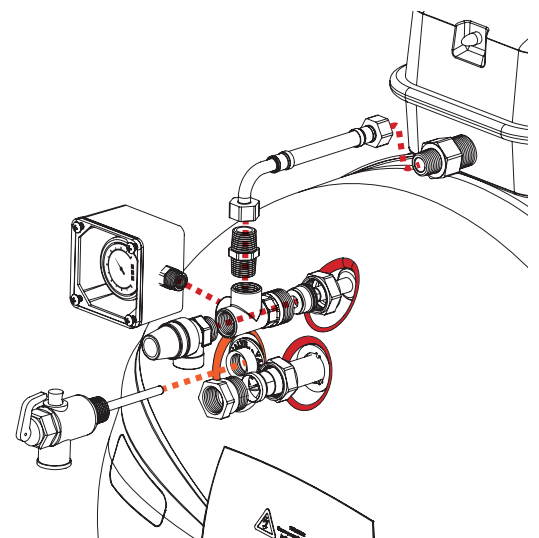

Figure 17. Expansion tank connection
- **Closed Circuit System** – see *Figure 17*
- **Expansion Tank Installation** – see *Figure 17*